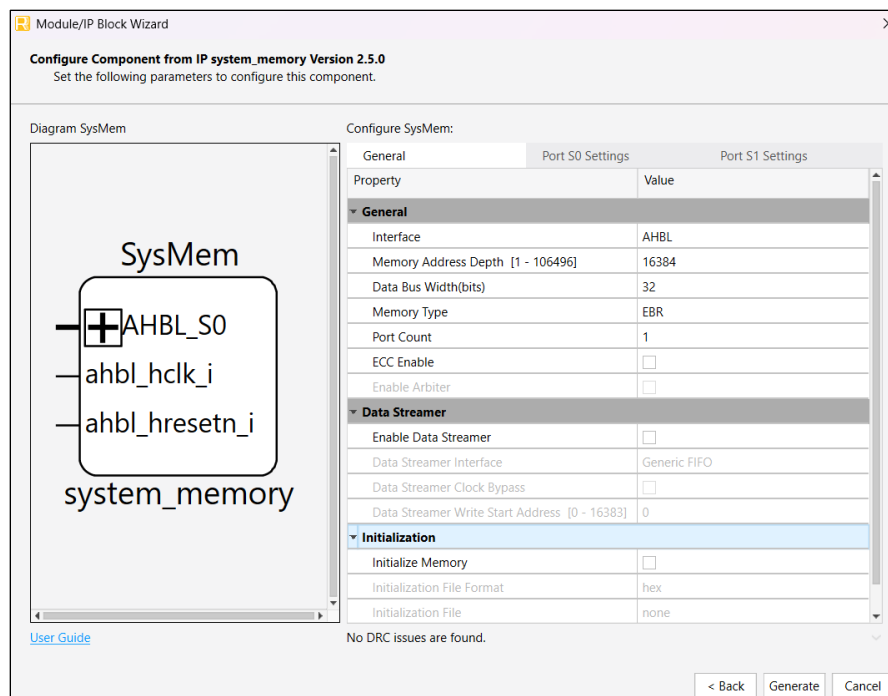

Figure 7.2. IP Configuration
3. In the next **Module/IP Block Wizard** window, customize the selected System Memory IP using the drop-down lists and checkboxes. Figure 7.2 shows an example configuration of the System Memory IP. Refer to the IP Parameter Description section for details on the configuration options.